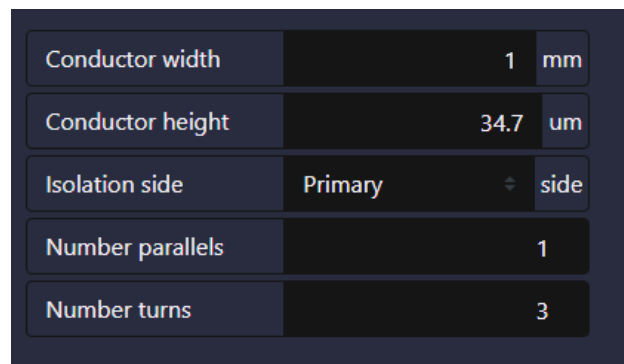

Fig. 17. Defining a winding.
Step 7. Winding definition: In this seventh step we will define the corresponding winding (starting with the primary) by introducing the width and height of the conducting track. Here, height is expressed in microns (μm), not in copper ounces, as in common in PCBs, to allow for the creation of cut strips out of copper foils. In this step, we will also specify the number of turns, the number of parallels and the isolation side (as explained previously) (Fig. 17).